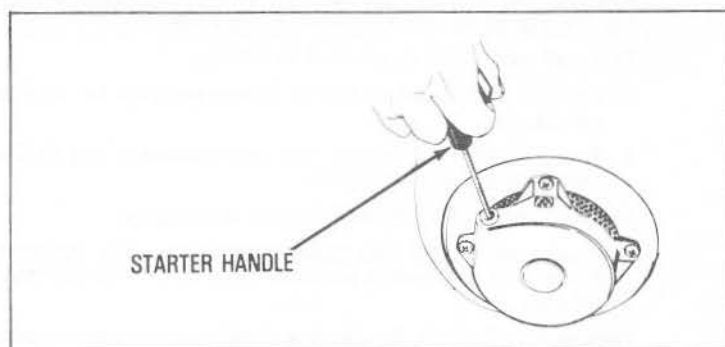

Figure 2
1. Grasp STARTER HANDLE (see Figure 2) and pull rope out, slowly, until it pulls harder due to engine compression. Let rope rewind slowly.